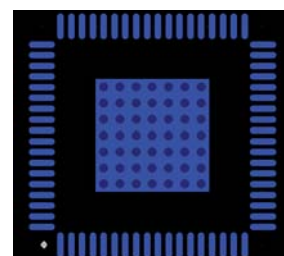

Figure 85. Exposed Pad Layout Example—Top View
- Place vias such that all layers of copper are connected, allowing efficient heat and energy conductivity. See Figure 85, which shows 49 vias arranged in a 7 \times 7 grid in the pad area.